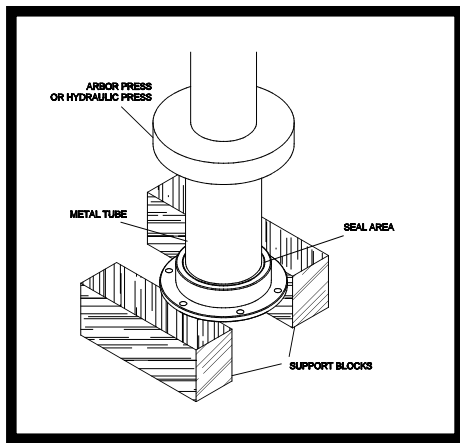

Figure 6.2.2—Removal of Seals from Seal Carrier
2. With a set of blocks or equivalent, support the seal carrier up so the seals can be pushed out; **reference Figure 6.2.2, next page**.